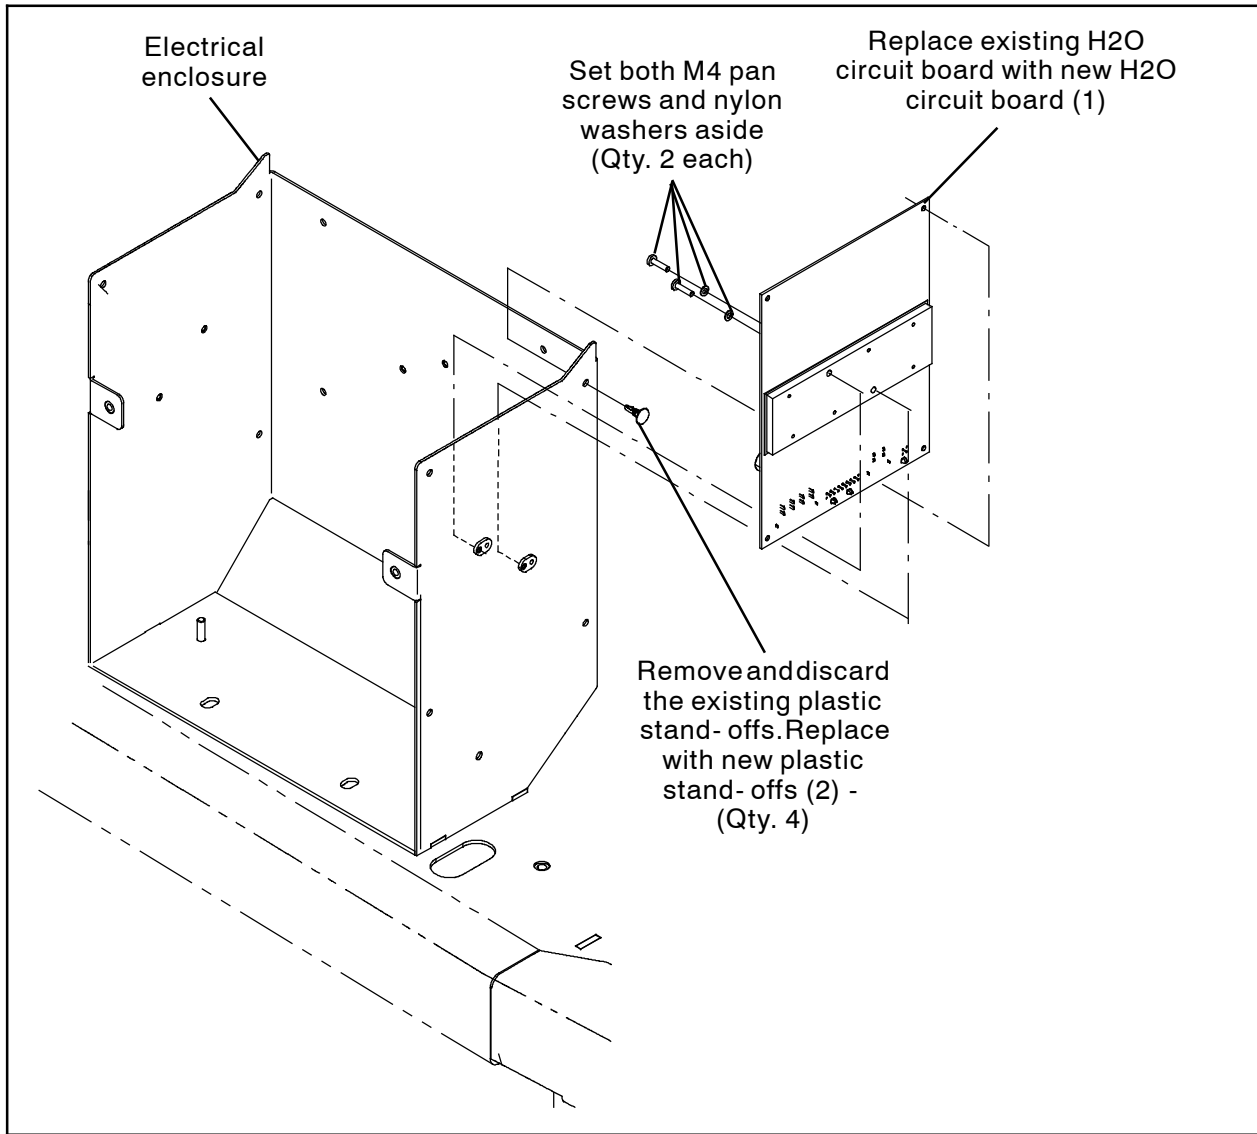

FIG. 3
- Disconnect the main wire harness connectors from the existing H2O circuit board. (Fig. 3)
- Remove both M4 pan screws and nylon washers securing the H2O circuit board to the electrical enclosure. Set the M4 pan screws and nylon washers aside. (Fig. 3)
- Remove the H2O circuit board from the four plastic stand- offs on the electrical enclosure. Discard the H2O circuit board. (Fig. 3)
- Remove the four plastic stand- offs from the electrical enclosure. Discard the plastic stand- offs. (Fig. 3)
- Install the four new plastic stand- offs (2) where the old plastic stand- offs were previously located. (Fig. 3)
- Place the new H2O circuit board (1) onto the plastic stand- offs (2) and use the M4 pan screws and nylon washers to secure the H2O circuit board to the electrical enclosure. (Fig. 3).
- Connect the main wire harness connectors to the H2O circuit board (1). (Fig. 3)